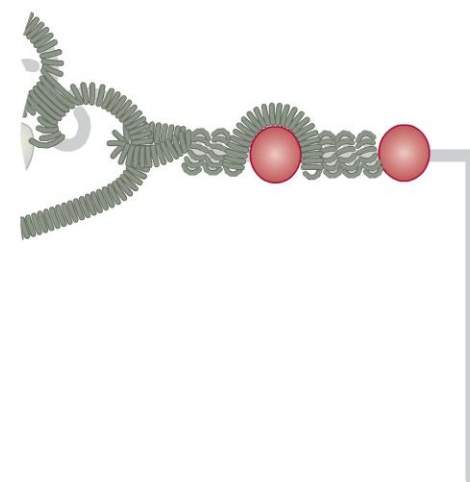

figure 6
- 1 6** Slide a 6mm garnet onto the 20-gauge wire with the bead against the coiled section. Make a 90° bend in the 20-gauge wire, leaving enough space for another coiled wrapped loop (Figure 6).